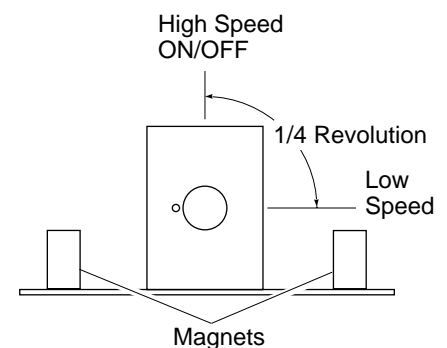

Figure 36 - Blower Speed Control
- To operate blower, turn the blower speed control knob clockwise to the "on" position (see Figure 36). This will be the highest blower speed. Continue turning knob clockwise to reduce blower speed. Turn knob only within the specified range (1/4 revolution, see Figure 36).